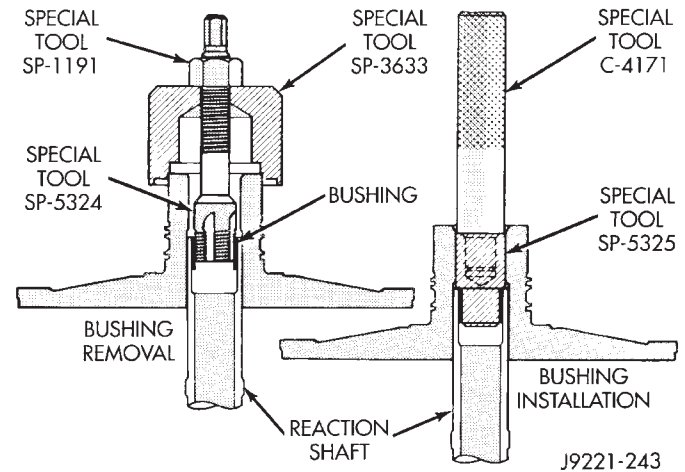

Fig. 128 Replacing Reaction Shaft Support Bushing
(1) Assemble Bushing Remover Tools SP-1191, 3633 and 5324 (Fig. 128). **Do not clamp any part of reaction shaft or support in vise.**
(2) Hold Cup Tool SP-3633 firmly against reaction shaft and thread remover SP-5324 into bushing as far as possible by hand. Then thread remover tool 3-4 additional turns into bushing with a wrench.
(3) Turn remover tool hex nut down against remover cup to pull bushing from shaft. Clean all chips from shaft after bushing removal.
(4) Lightly grip old bushing in vise or with pliers and back remover tool out of bushing.
(5) Assemble Bushing Installer Tools C-4171 and SP-5325 (Fig. 128).
(6) Slide new bushing onto Installer Tool SP-5325.
(7) Position reaction shaft support upright on a clean smooth surface.
(8) Align bushing in bore. Then tap bushing into place until Bushing Installer SP-5325 bottoms.
(9) Clean reaction shaft support thoroughly after installing bushing.